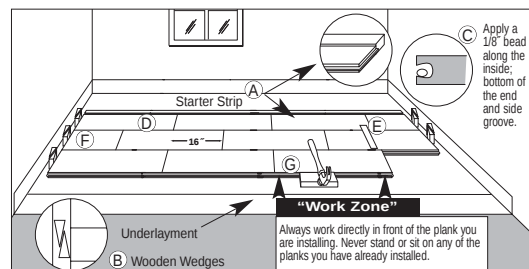

Figure 14
- Select the first board. All installations should begin with the groove side against the wall using the longest boards available. Apply a continuous 1/8" (3 mm) glue bead to the inside, bottom of the groove on the end of the board. Do not apply glue to the groove side at this time (Item C, Figure 14). Products with the end tongue on the left should be installed right to left, opposite tongues should be left to right. (Item D, Figure 14). If a sacrificial board was used DO NOT glue the first row to it.
- Complete the first row. Cut the last board allowing for 1/2" (13 mm) clearance between the wall and the floor. (Use the remaining end of the cut board as a starter board for any row following row three). Install a wedge on the end of the board between the wood flooring and the wall allowing 1/2" (13 mm) expansion space. Avoid installation of any boards shorter than 16" (41 cm) in the first four rows. (Item F, Figure 14).
- Use a pull bar to pull the last board into place from the opposite end. Install wedges into the gap and tighten (Item B, Figure 14).
- Cut or use a shorter board for the first board of the second row. Start the second row by applying a 1/8" (3 mm) bead along the inside, bottom of the end and side groove of the new board. Install the first board of row two. Apply a bead of glue to the inside, bottom of the end and side groove of the next board and install. When installing boards together, use a tapping block against the tongue, not the groove (Item G, Figure 14). Tap the boards into place by tapping with a hammer on the tapping block. DO NOT tap on the edge directly with the hammer. Complete the second row through fourth row using this technique. Insert wedges on the ends as necessary to restrain the movement of the floor.